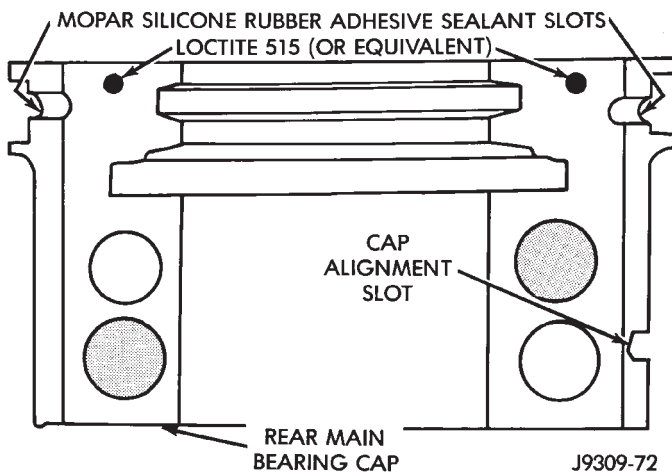

Fig. 45 Sealant Application to Bearing Cap
- (1) Clean Loctite 518 residue and sealant from the cylinder block and rear cap mating surface. Do this before applying the Loctite drop and the installation of rear cap.
- (2) Lightly oil the new upper seal lips with engine oil.
- (3) Install the new upper rear bearing oil seal with the white paint facing towards the rear of the engine.
- (4) Position the crankshaft into the cylinder block.
- (5) Lightly oil the new lower seal lips with engine oil.
- (6) Install the new lower rear bearing oil seal into the bearing cap with the white paint facing towards the rear of the engine.
- (7) Apply 5 mm (0.20 in) drop of Loctite 518, or equivalent, on each side of the rear main bearing cap (Fig. 45). DO NOT over apply sealant or allow the sealant to contact the rubber seal. Assemble bearing cap to cylinder block immediately after sealant application.